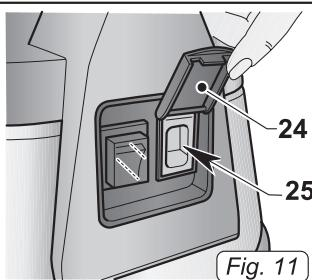

Fig. 11
- Lift the shutter (24 Fig. 11).
- Connect the electrical brush's plug to the socket (25 Fig. 11) located on the top of the vacuum (maximum output 200 W).